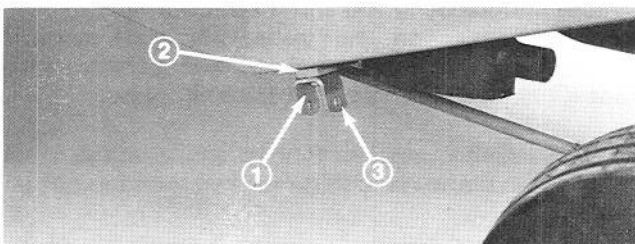

Figure 4
3. Remove capscrew and flange nut securing front engine support to frame (gasoline only). Secure Belly Shield hanger and engine support to frame with 3/8 x 1-1/4 in. capscrew and flange nut. Repeat procedure on opposite side of machine (Fig. 4). Discard 3/8" x 1" long capscrew removed.